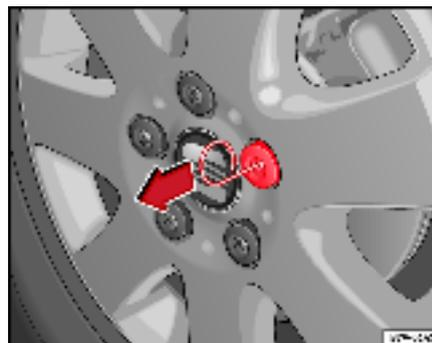

Fig. 156 Use the hook to pull off the cap
- Insert the hook through the opening in the middle of the cap ⇒ fig. 156.